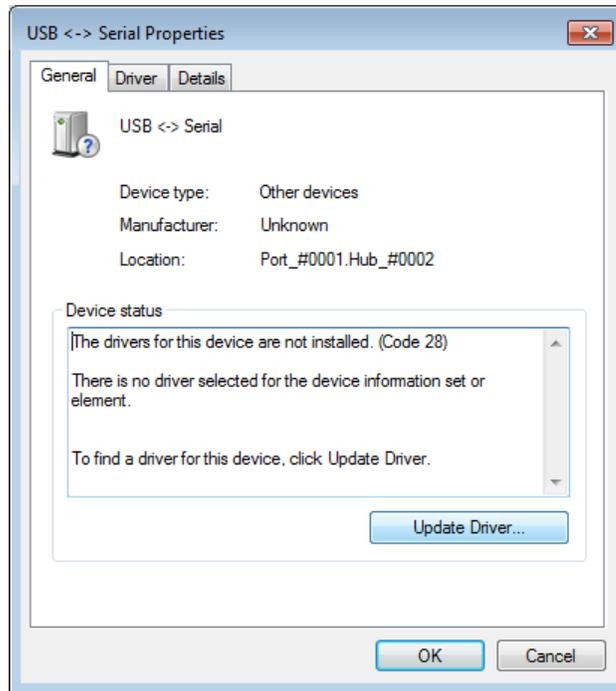

Figure 7 – Driver Installation Step-by-Step – Update Driver
- 4th step: The next window will open. Click **Update Driver**. See Figure 7.